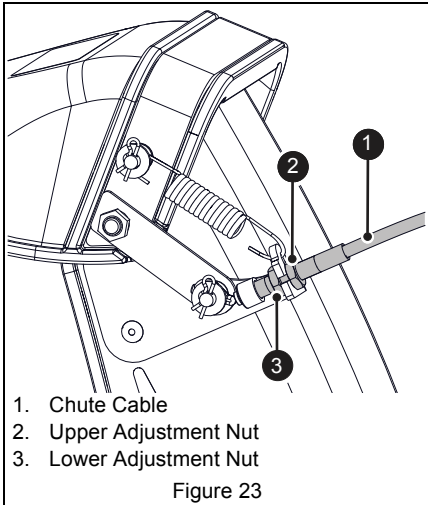

Figure 23
2. Adjust nuts on chute cable. See Figure 23.